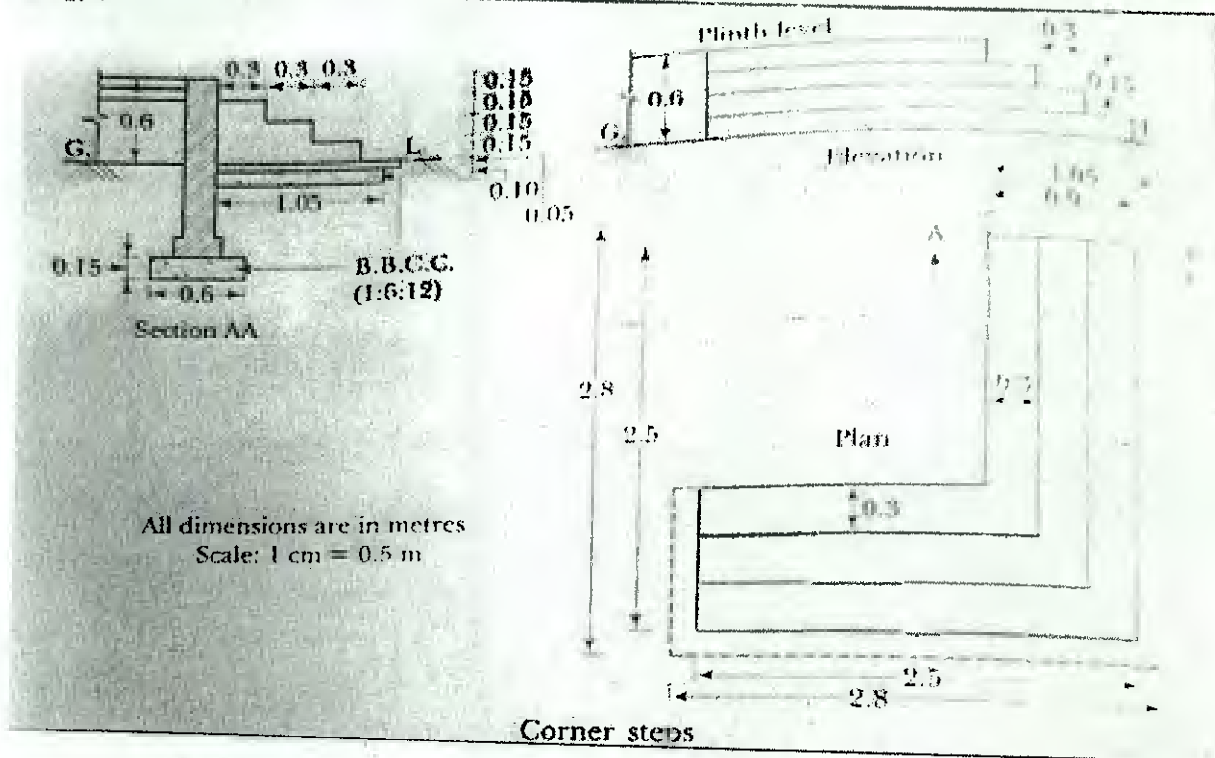

Fig: 2
A. Prepare an detailed estimate & abstract estimate of steps.(Fig.2)